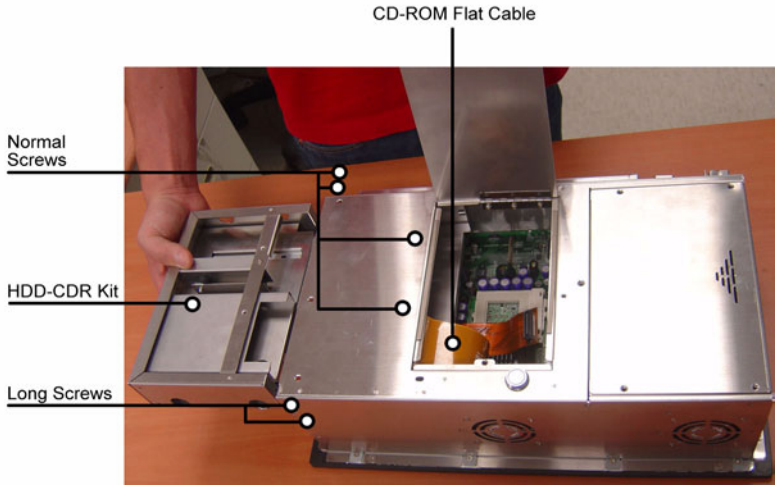

Figure 2.6: Removing the Back Case Screws
2. Unscrew the bolt in the center of the HDD-CDR kit (see figure 2.6).
4. Remove the six screws on the back case (see Fig. 2-6).
13. Fasten the six screws on the back case (see Fig. 2-6).